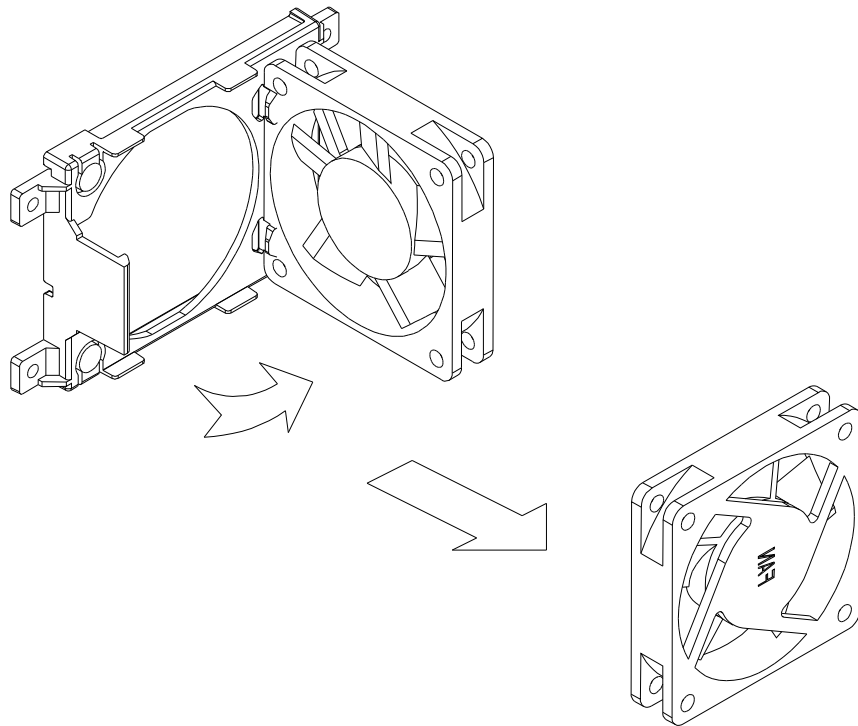

Figure 3.7 Remove the fan from the plastic bracket
3. Push the hook on the left side of the fan to take out the fan (see Figure 3.7).